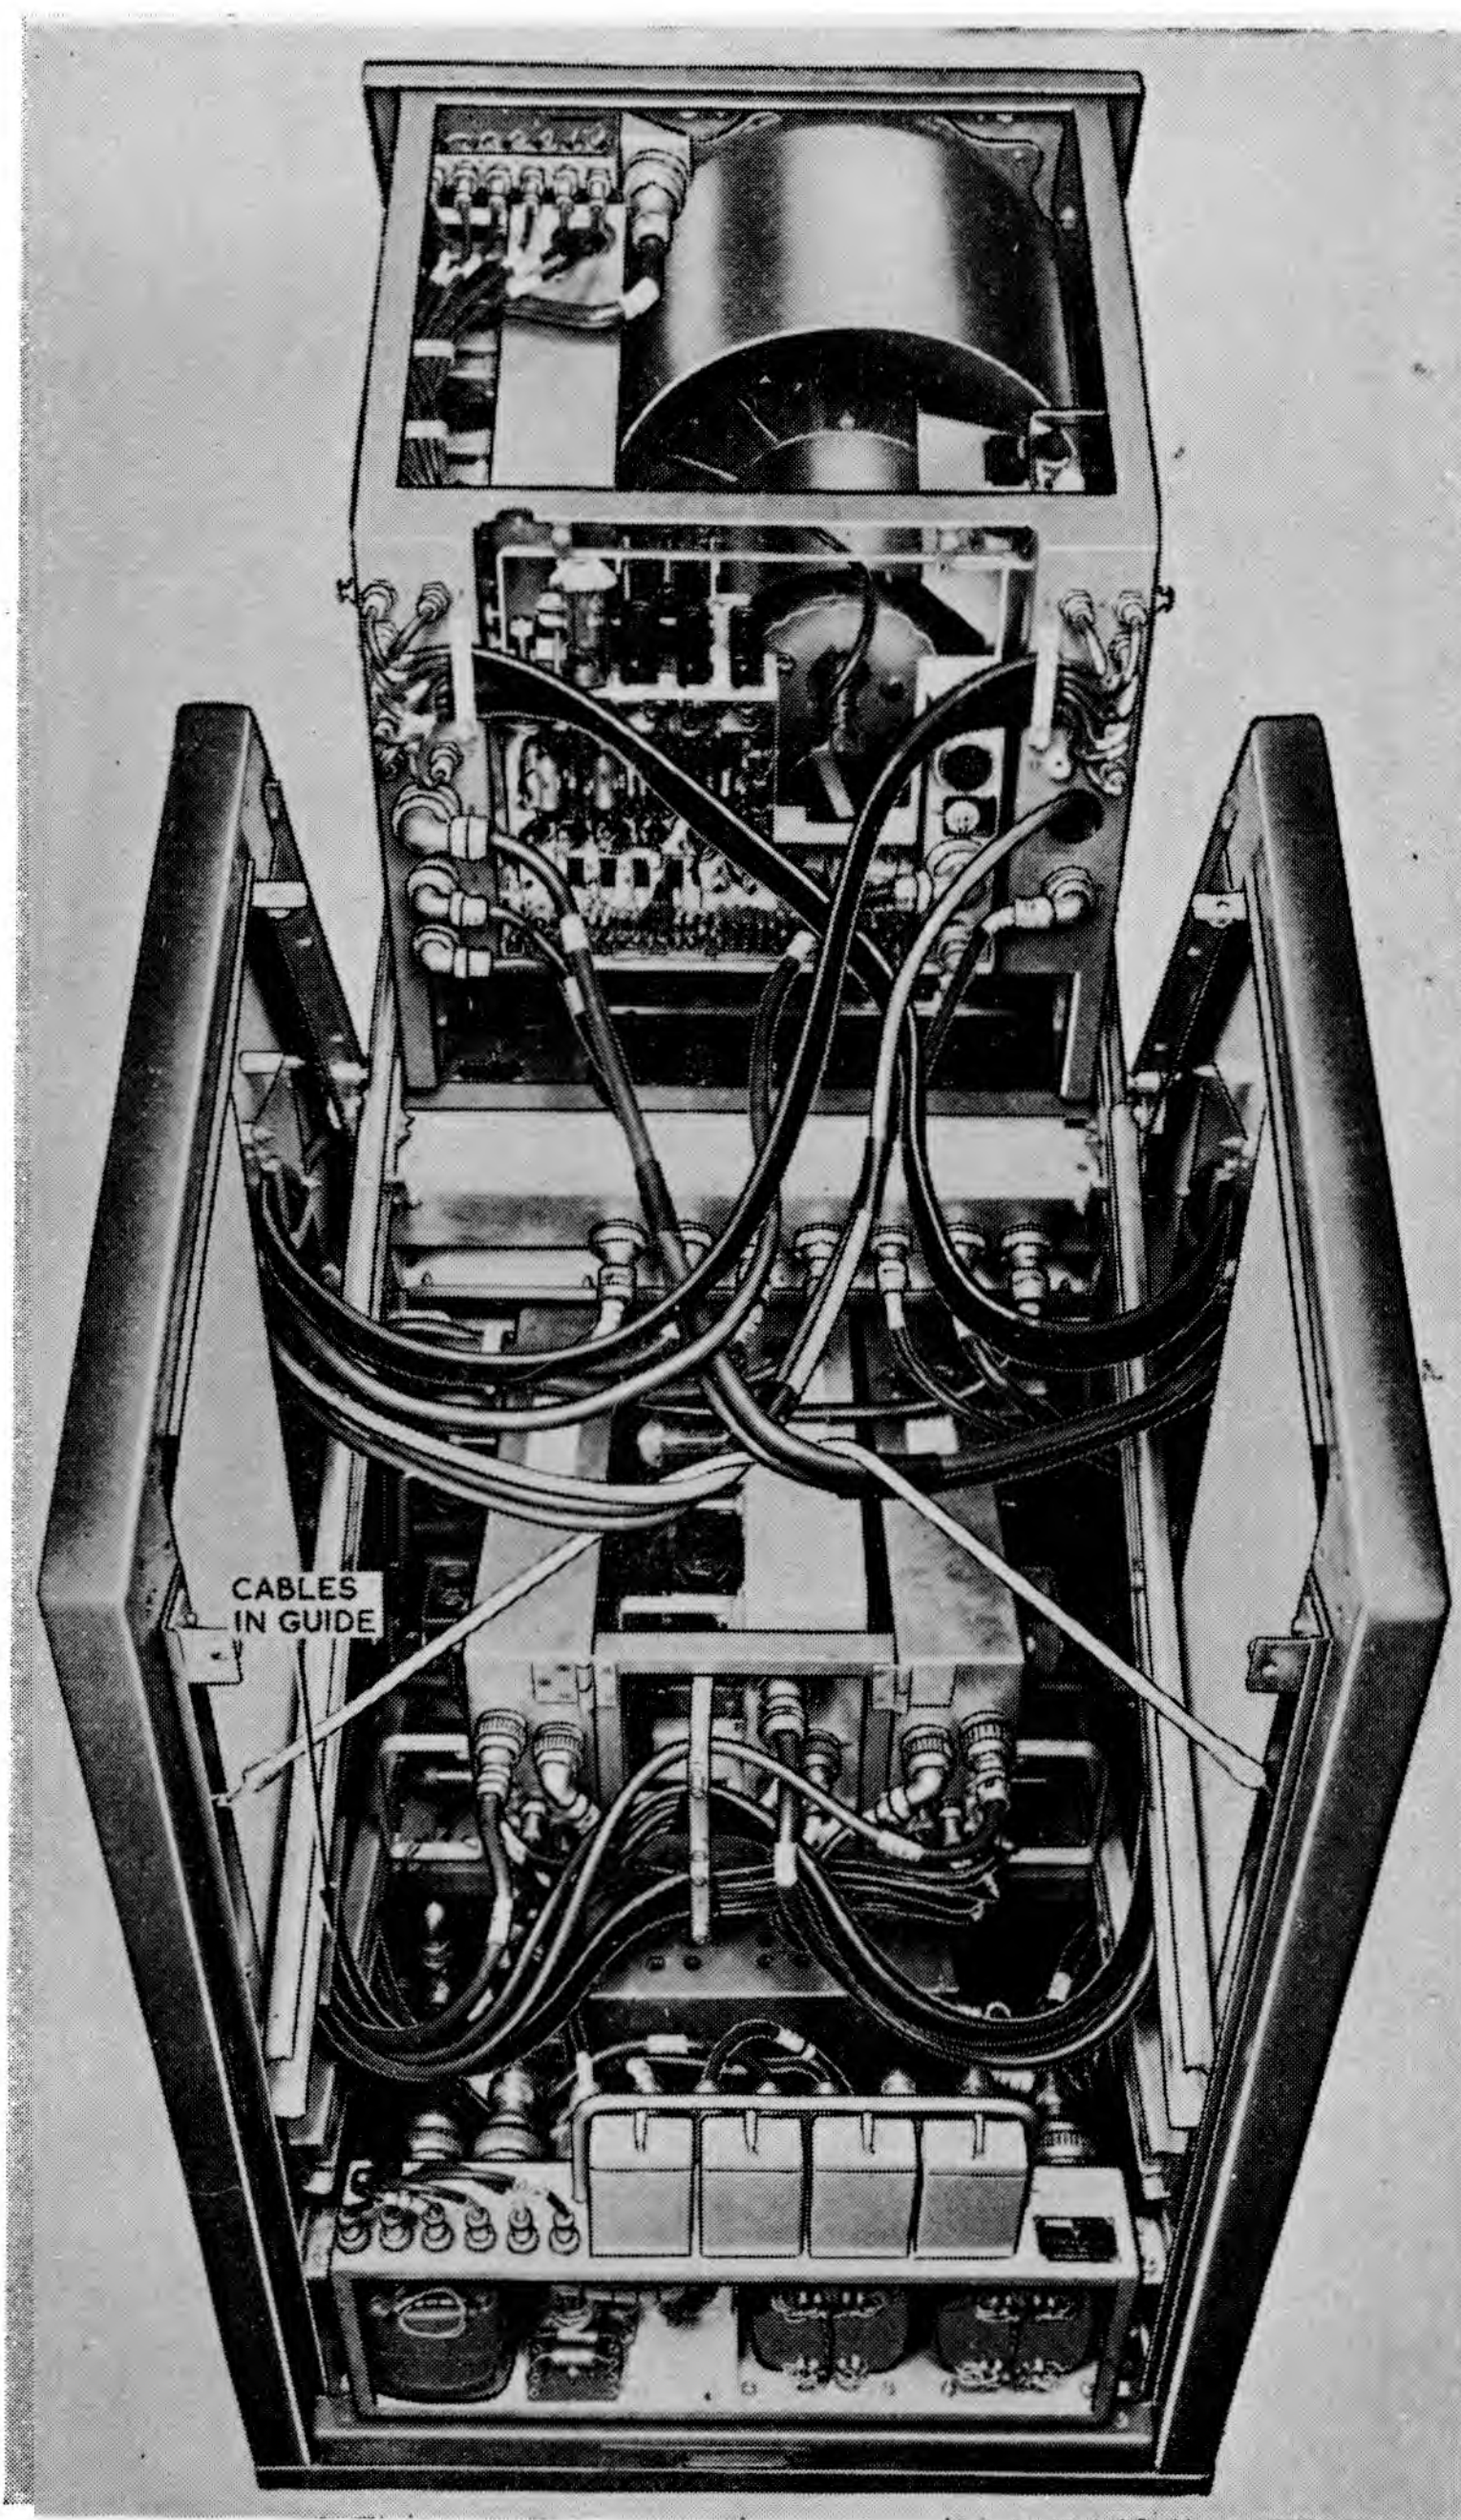
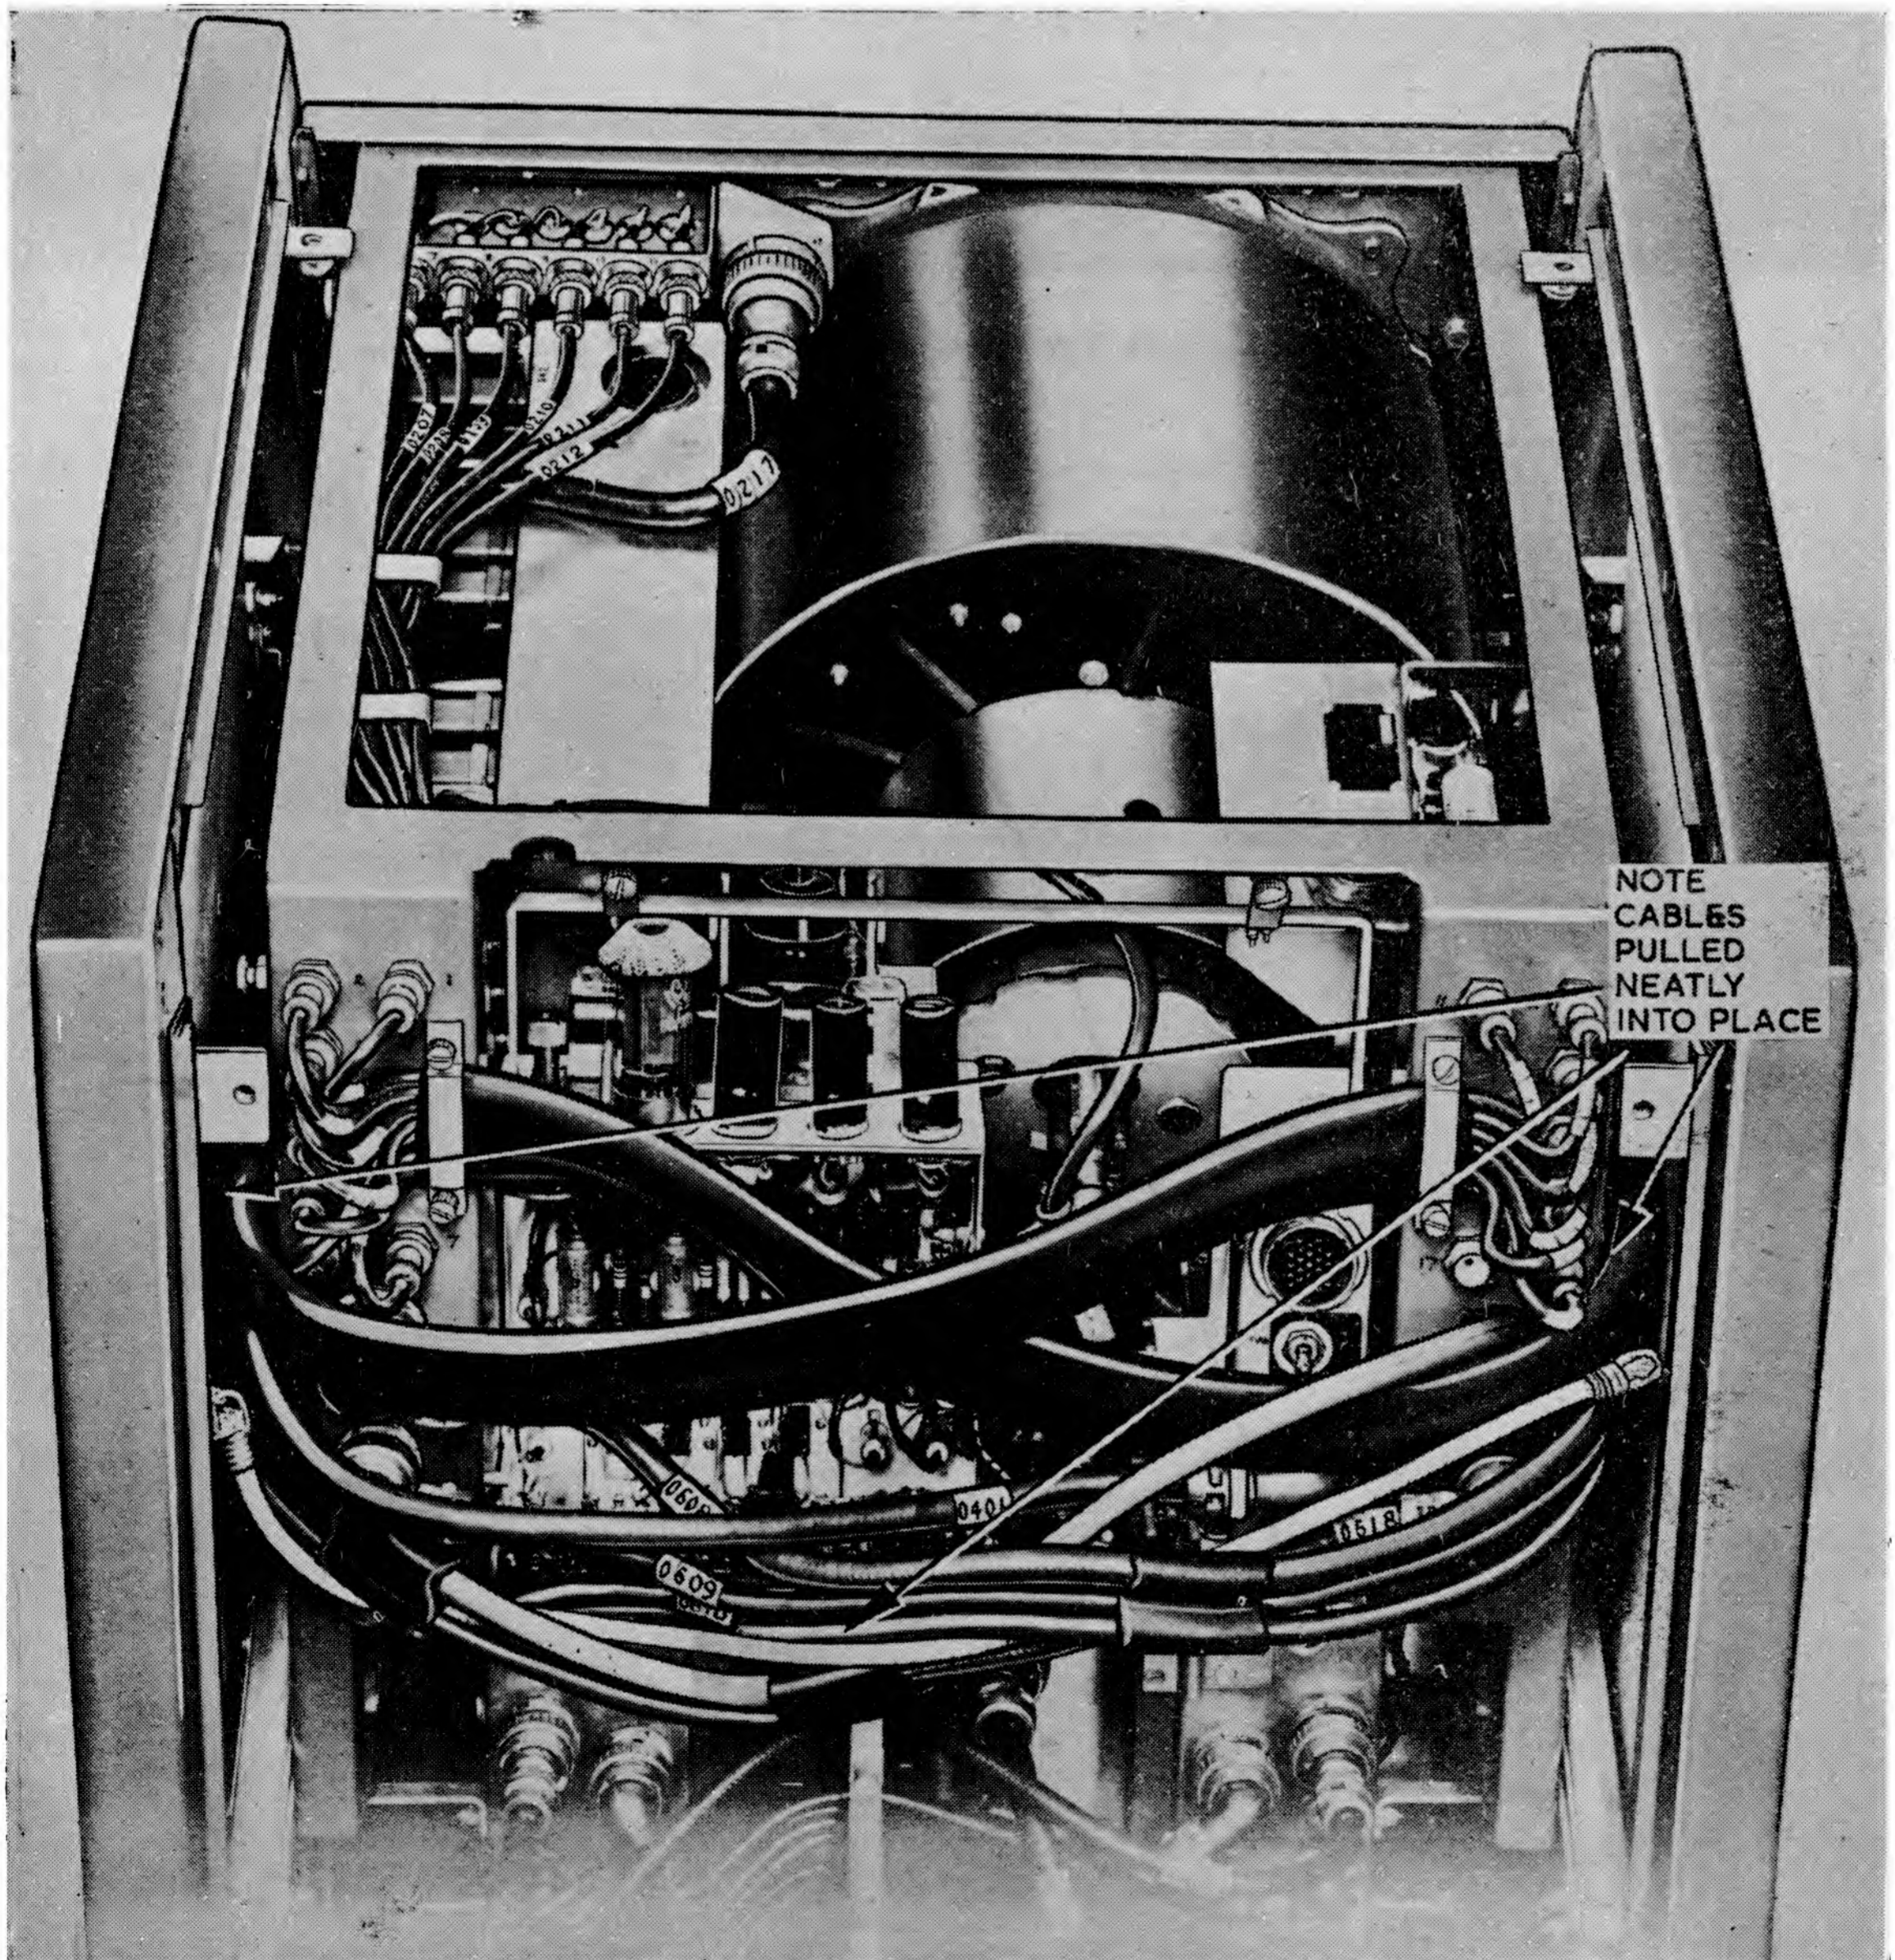
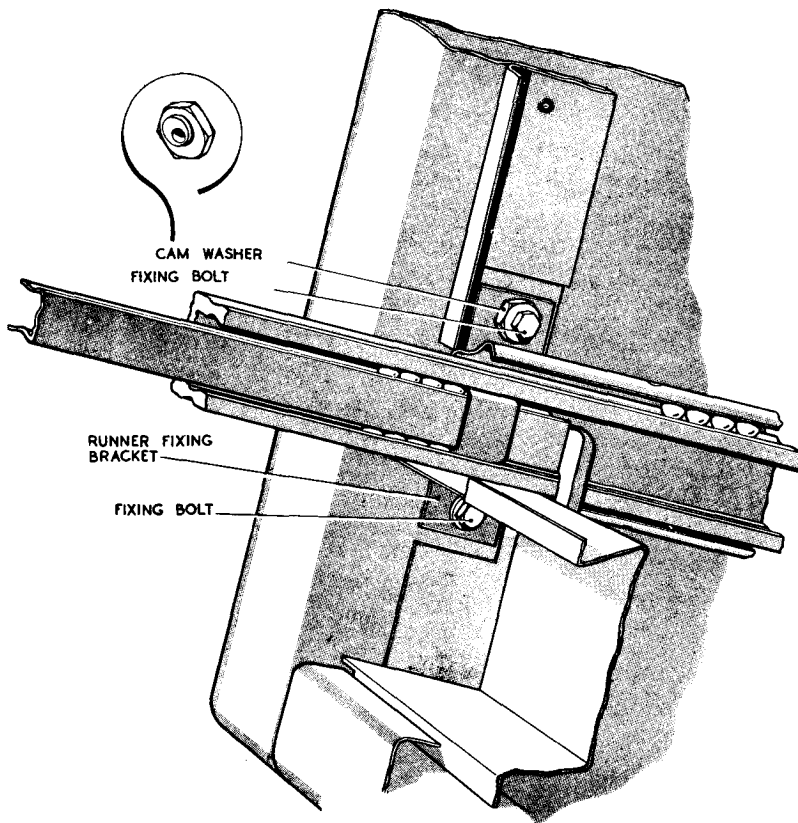

Fig. 9. Console Type 64—lower chassis pushed home
Fig. 10. Console Type 64—upper chassis lowered into frame (close-up)
Fig. 13. Console Type 64—runner adjustment▶
50. Fig. 9 shows the lower unit pushed home, with the cables sliding snugly between the two runways on each side. Fig. 10 gives a close-up view of the upper unit lowered into the frame, with arrows indicating the points at which the cables were apt to jam when incorrectly fitted.
55. The runners, on either side of the indicating unit, may be identified in fig. 9. An illustration of the adjustable fixing at the front end of the runner on the right-hand side of fig. 9 is given in fig. 13. Similar provision is made for the other runner.
56. The lower bolt-hole in the runner fixing bracket (fig. 13) is slotted to permit movement of the runner in the vertical plane, the bolt being fixed in the console framework. The upper bolt-hole is drilled out to take the projecting part of the cam washer (inset in fig. 13). The bolt-hole